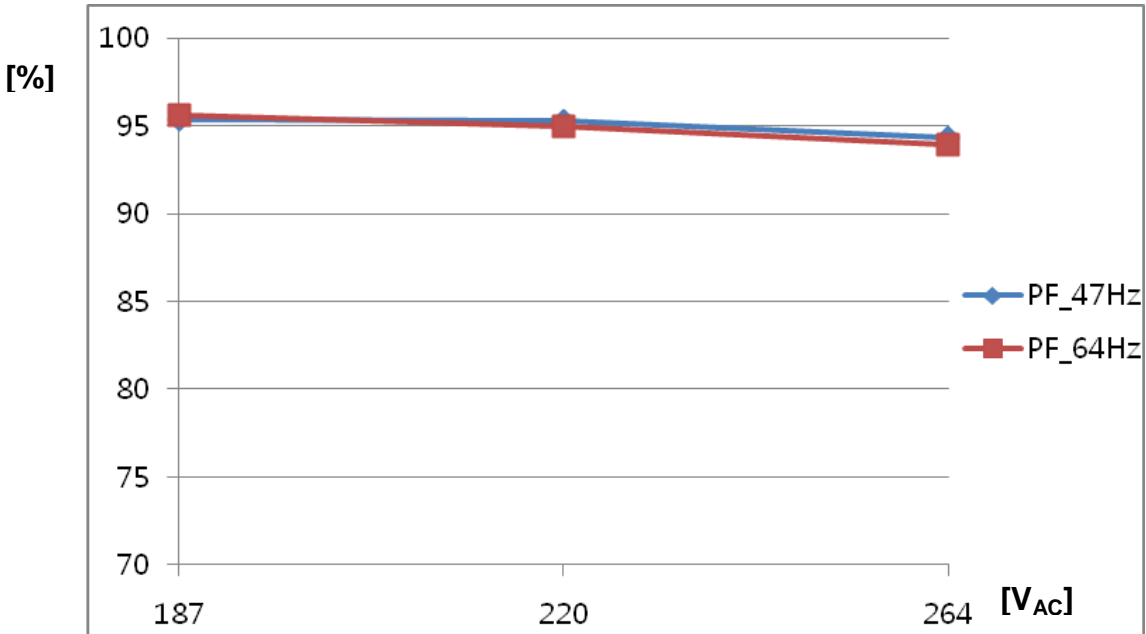

Figure 25. Power Factor
The Figure 25 shows the system Power Factor (PF) performance for the entire input voltage range (187 V to 264 V) at different input frequency conditions (47 Hz, 64 Hz). The PF changes slightly according to the input frequency, but can achieve over 86% at 264 V_{AC} condition.